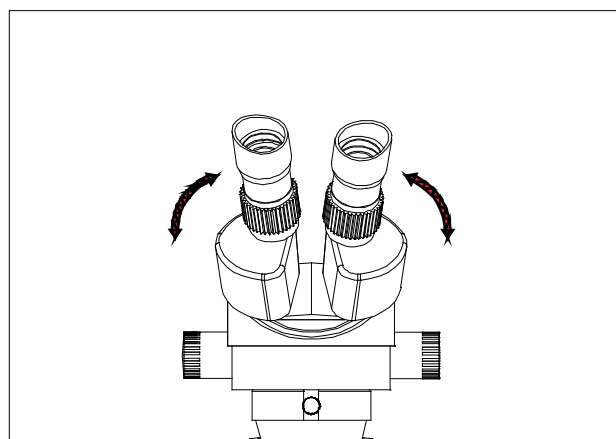

Fig. 4
- 5.1) Adjust the prism housing along the direction of arrowhead of the Fig. 4 till the observation is comfortable.